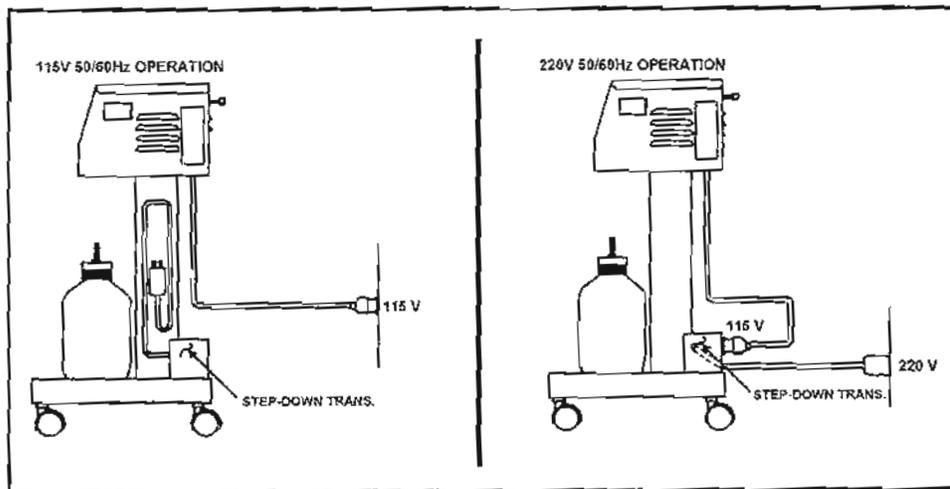

Figure 1-6. Voltage conversion decal.
(4) A voltage conversion decal (located on the top of the transformer) is depicted in figure 1-6.